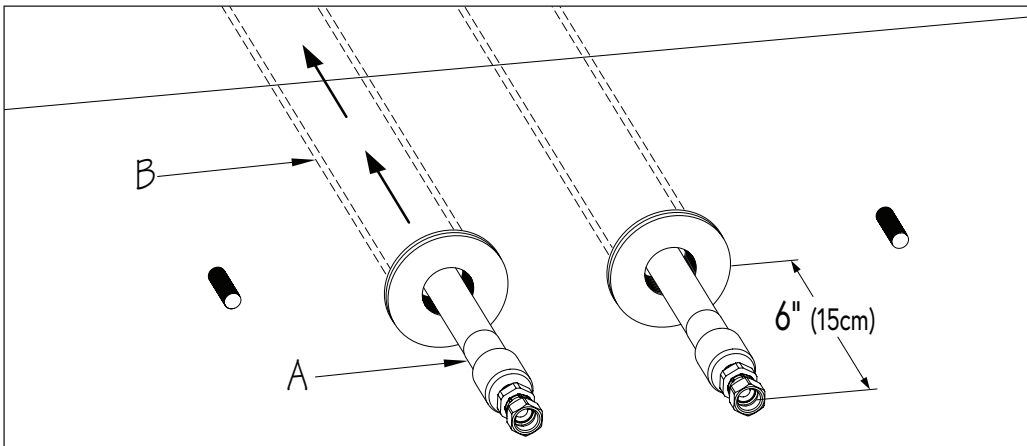

Fig. 7
Route the Run Hoses (A) into the fittings from the inside of the pool and through the conduit (B) to the Hydraulic Power Unit outside the pool. The hoses should extend no more than 6" (15cm) into the pool. **AGAIN, VERIFY THE POOL LABEL ON THE END OF EACH HOSE IS POOLSIDE** (Fig. 7).